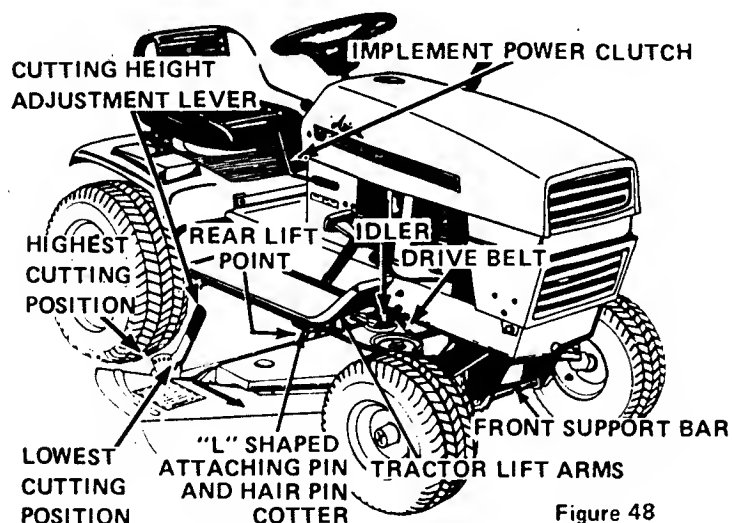

Figure 48
3. Place cutting height adjustment lever in the second lowest cutting position as shown in Figure 48.
5. Place the drive belt over the rear lift point and lower the attachment lift lever. Align ball joint of rear lift point to tractor lift arms and secure with the "L" shape attaching pin and hairpin cotter provided. See Figure 48.
6. Position drive belt over the drive and driven sheaves and place idler to the inside of the belt as shown in Figure 48.